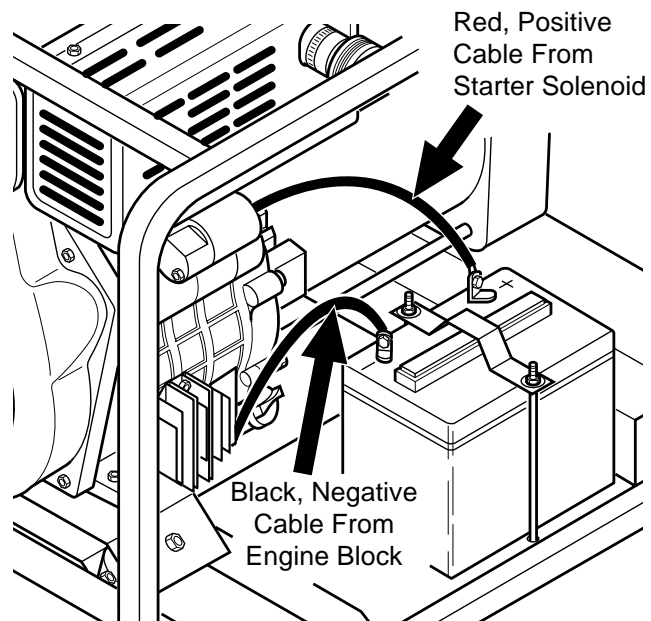

Figure 11 - Connecting Positive and Negative Cables to Battery
2. Locate the red, positive (+) battery cable from starter solenoid. Connect it to the positive (+) battery terminal (see Figure 11).
3. Locate the black, negative (–) battery cable attached to engine block. Connect it to the negative (–) battery terminal (see Figure 11).